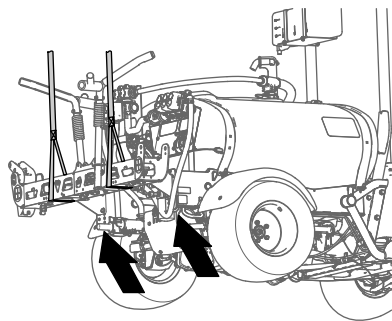

Figure 45
- 2. Support the center-spray section with lifting equipment with the specified capacity (Figure 45).